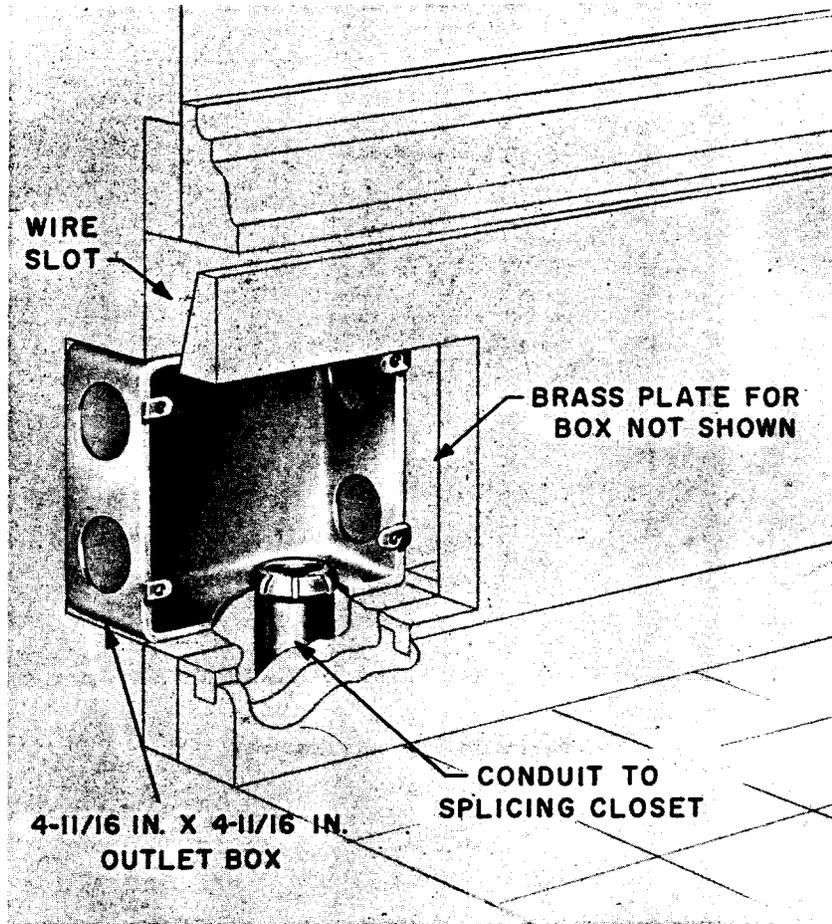

Fig. 4 – Wood Baseboard Raceway
- This system consists of wood baseboards with space in rear for telephone wires (Fig. 4).